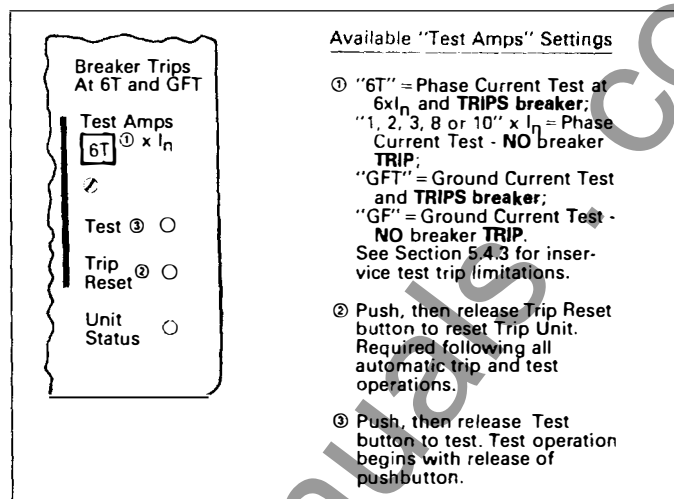

Fig. 5 Integral Test Panel (Lower Right Corner of Trip Unit)
As indicated in Fig. 5, six different “Test Amps” settings (1, 2, 3, 6T, 8 and 10X  $I_n$ ) are available for testing the phase elements of the trip unit, and two (GF, GFT) are provided for testing the ground elements.
1. Place the "Test Amps" selector switch (See Fig. 5) in one of the six "No Trip" test settings, i.e., 1, 2, 3, 8, or 10,  $\times I_n$ , or GF.
2. Place the "Test Amps" selector switch (See Fig. 5) in one of the two "Trip" test settings, i.e., 6T or GFT.
3. Depress the black "Test" pushbutton (See Fig. 5) and release it - the test is initiated when the pushbutton is released.
5. Reset the trip unit by depressing and releasing the "Trip Reset" pushbutton (See Fig. 5). All LEDs lighted by the "Trip" test action should turn "OFF".